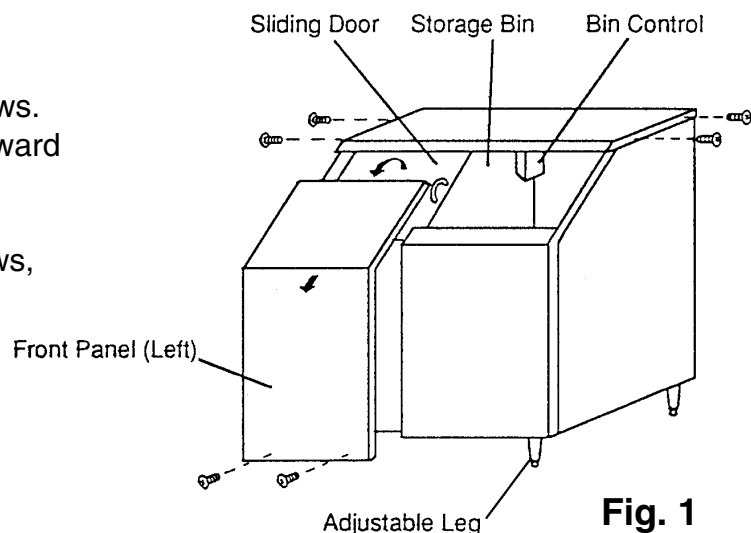

Fig. 1
- 1) Remove the front panel to prevent damage when installing the icemaker. See Fig. 1.
- See Fig. 1